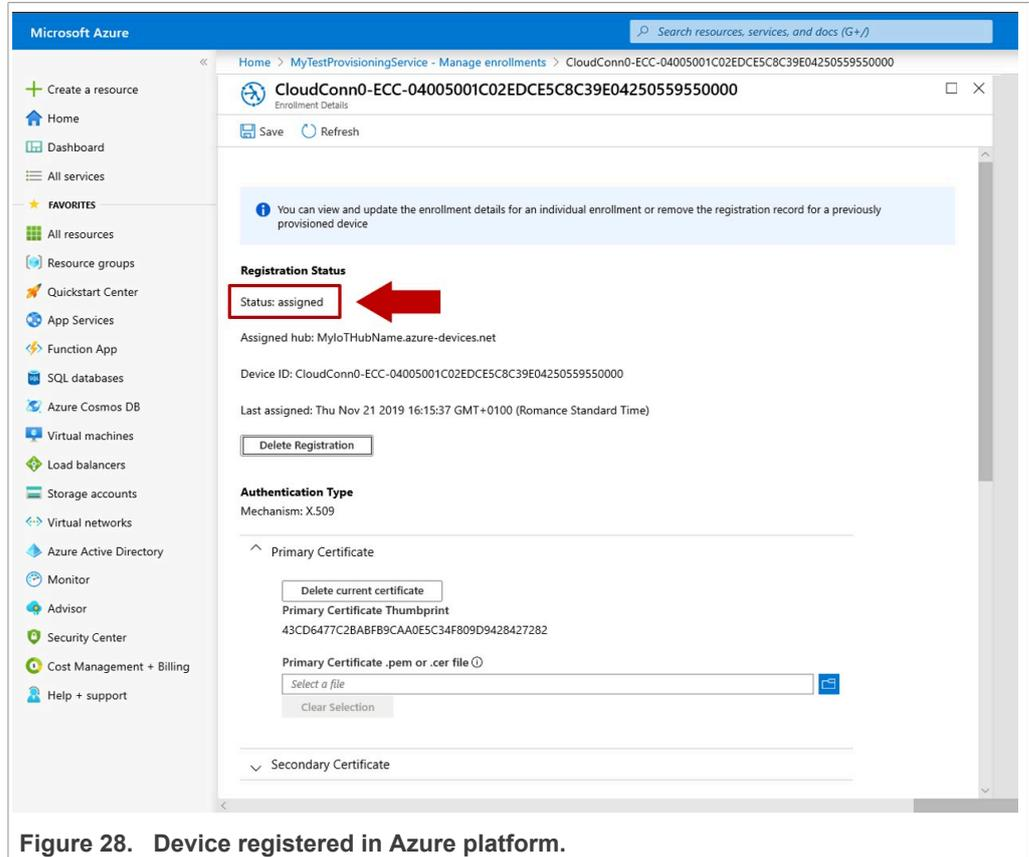

Figure 28. Device registered in Azure platform.
- 4. The device registration can be verified in the **Manage enrollments** section of our IoT Hub Device Provisioning Service. The **Status** of the enrollment should be **Assigned** as shown in Figure 28